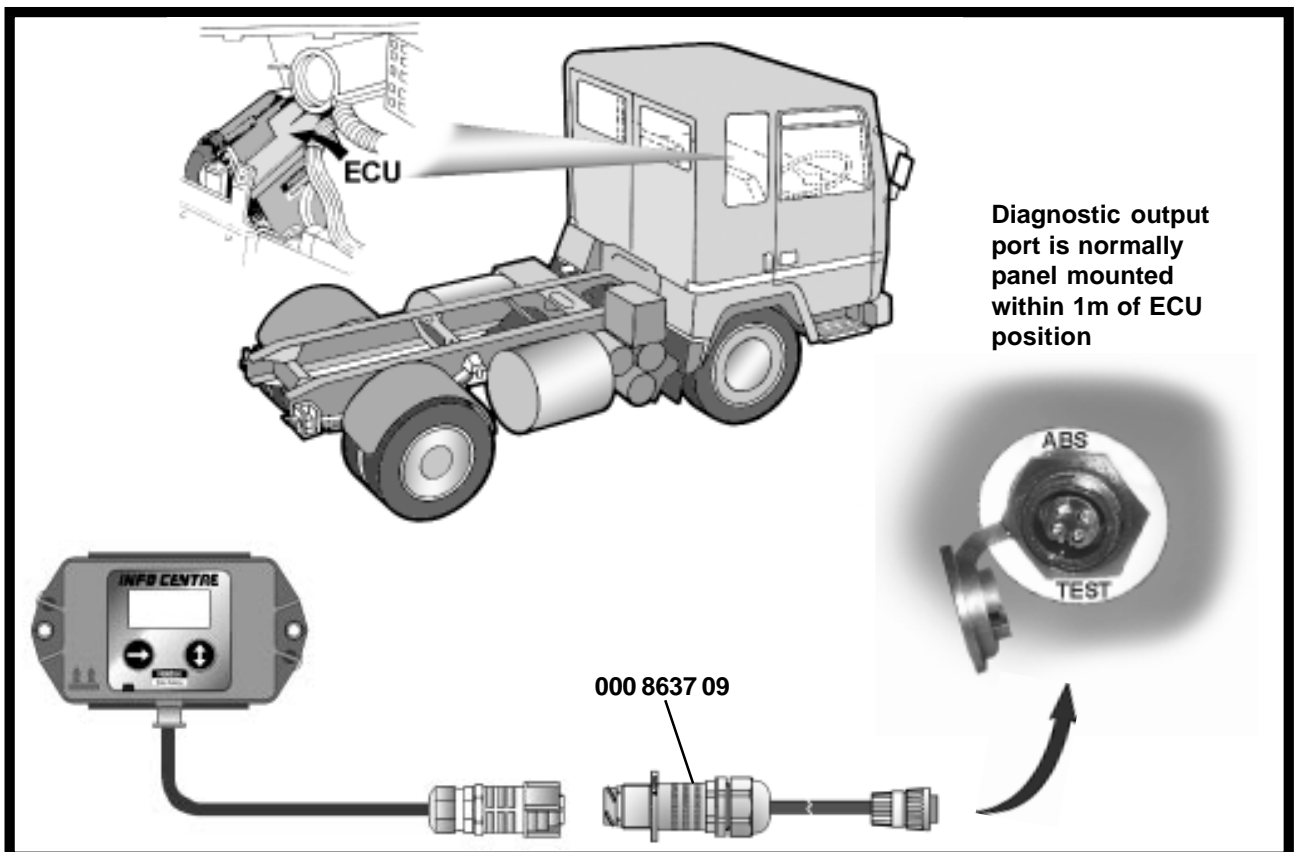

Fig. 2 DGX Diagnostic outlet socket location
1. Plug the Info Centre connector, into the ECU diagnostic port (Fig.2). This may be done with ignition switched on or off, BUT codes registered in the ECU, disappear if the ignition is switched off, intermittent defects are best investigated by leaving the ignition on after detection (cab lamp lit), plug in the Info Centre to display the diagnostic code.